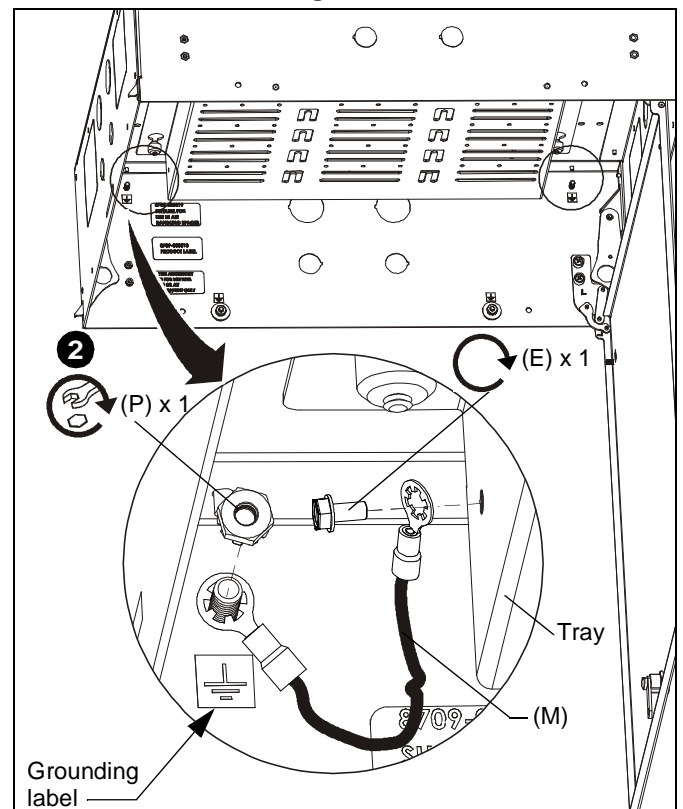

Figure 13
2. The other grounding wire (M) should be attached between the removable tray and the CMS490 box using one 10-32 grounding screw (E) in desired location on removable tray and one 10-32 grounding nut (P). (See Figure 13)